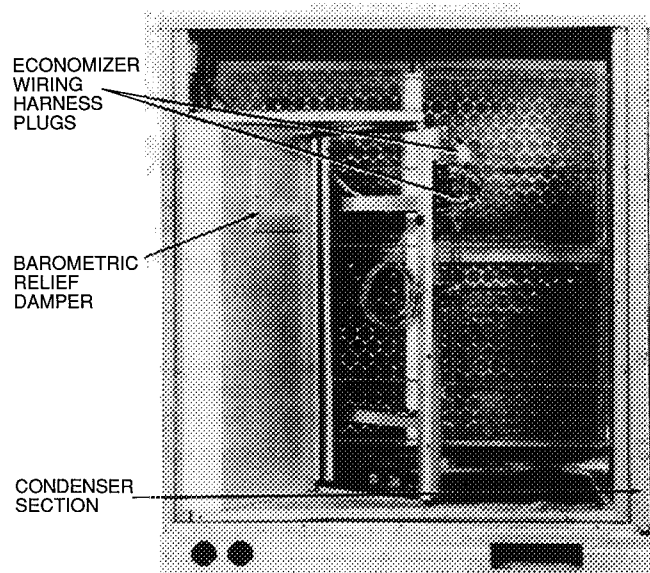

**Fig. 21 – Horizontal Economizer Installation
- b. Rotate economizer 90 degrees until economizer motor faces condenser section (see Fig. 21.) If necessary, disassemble economizer to replace filter.